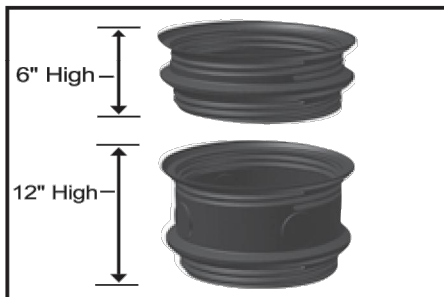

FIG.1 Riser Elevation
STEP 1 Determine riser elevation and required riser combination as per tank installation (see reverse). STAR™ risers are available in 6" (STAR-24R6) and 12" (STAR-24R12) height increments. (Fig.1)